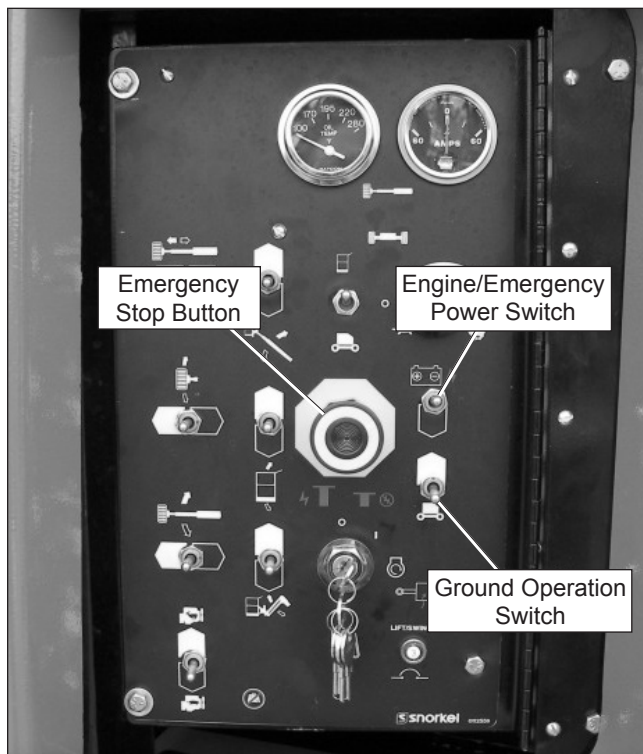

Figure 4.1 – Lower Controls
At the lower controls, the emergency stop button is a two-position push button (refer to Figure 4.1).
- Hold the engine/emergency power switch (refer to Figure 4.1 and 4.2) downward to activate the emergency power system.
The ground operation switch (refer to Figure 4.1) prevents boom and platform movement if a control switch on the lower control panel is accidentally moved.